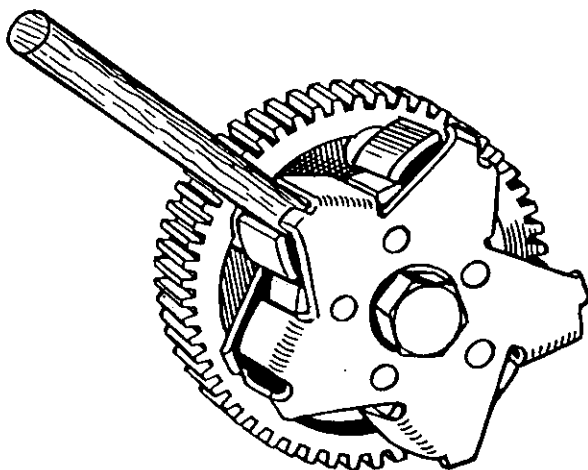

Fig. 23. B.T.H. Automatic Timing Device.
- (1) Rotate the engine for forward travel (anti-clockwise viewed from the drive side) until No. 1 piston (timing side) is coming to compression stroke. This is indicated when No. 1 cylinder inlet valve is just closing.
- (2) Wedge the automatic timing device in the fully advanced position, as shown in the illustration (Fig. 23).
- (3) Turn the engine in the forward direction (anti-clockwise) until the pistons reach T.D.C. If a timing stick is being used the through cylinder head, a mark should be made on it at this point. A further mark should also be made exactly  $\frac{1}{8}$  in. above.
- (4) The engine should now be rotated backwards (clockwise viewed from drive side)  $\frac{1}{4}$  in., then the rotation reversed, bringing up very slowly to the  $\frac{1}{8}$  in. timing mark.
- (5) In the case where timing is being carried out direct on to the top of the pistons, the same procedure should be adopted on the depth gauge—i.e. turning back below the required amount of advance and coming up to the  $\frac{1}{8}$  in. mark to take up any backlash in the timing gears.
- (6) Turn the magneto so that the points are just opening on the bottom cam—i.e. the contact points are pointing upwards. The setting should be made with a 0.0015 in. feeler gauge (or if not available, a cigarette paper or tissue paper). A battery and lamp timing set is even more accurate.
- (7) The contact breaker must be held in the correct position (6) and the A.T.D. nut tightened until a grip is felt. Lightly tighten the nut. Recheck the timing in the manner of the original timing. Make sure the contact breaker is timed  $\frac{1}{8}$  in. early and not  $\frac{1}{8}$  in. late. If timing is satisfactory, fully tighten the A.T.D. nut. Make a final check.
- (8) Clean off any jointing compound from the timing cover and smear on fresh compound. When tightening the cover, use a large screwdriver which is a good fit in the screw slots. This ensures good even tightening of the cover and minimises damage to the heads of the screws.